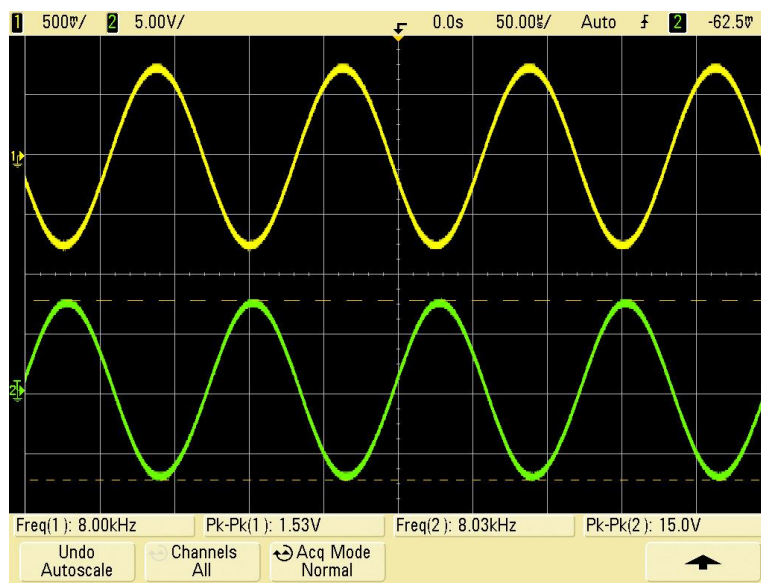

Figure 6. Oscilloscope traces for the inverting amplifier of Fig. 5.
Using $R_1 = 10\text{k}\Omega$ and $R_2 = 100\text{k}\Omega$, construct the circuit shown in Figure 5. Use a BNC Tee at the output of the function generator so that the signal can be sent to the oscilloscope (CH1) and to your op amp circuit. Connect the output of the op amp to CH2 of the oscilloscope. Adjust the AMPLITUDE of the function generator to be approximately 0.75 V (peak-to-peak) and set the FREQUENCY to approximately 8 kHz. You should see oscilloscope traces similar to Figure 6 below. Notice that the gain is -10 (15.2v/1.52v) and the output decreases as the input increases (an inverting amplifier). Notice that the output may be slightly shifted from 180° relative to the input. **Determine the phase shift of this op amp circuit by (1) finding the time lag (ΔT) between channel 1 (input) and channel 2 (output). (2) The phase shift is calculated using $360^\circ * (\Delta T/T)$ where T is the period of the sine wave ($T=1/f$).**